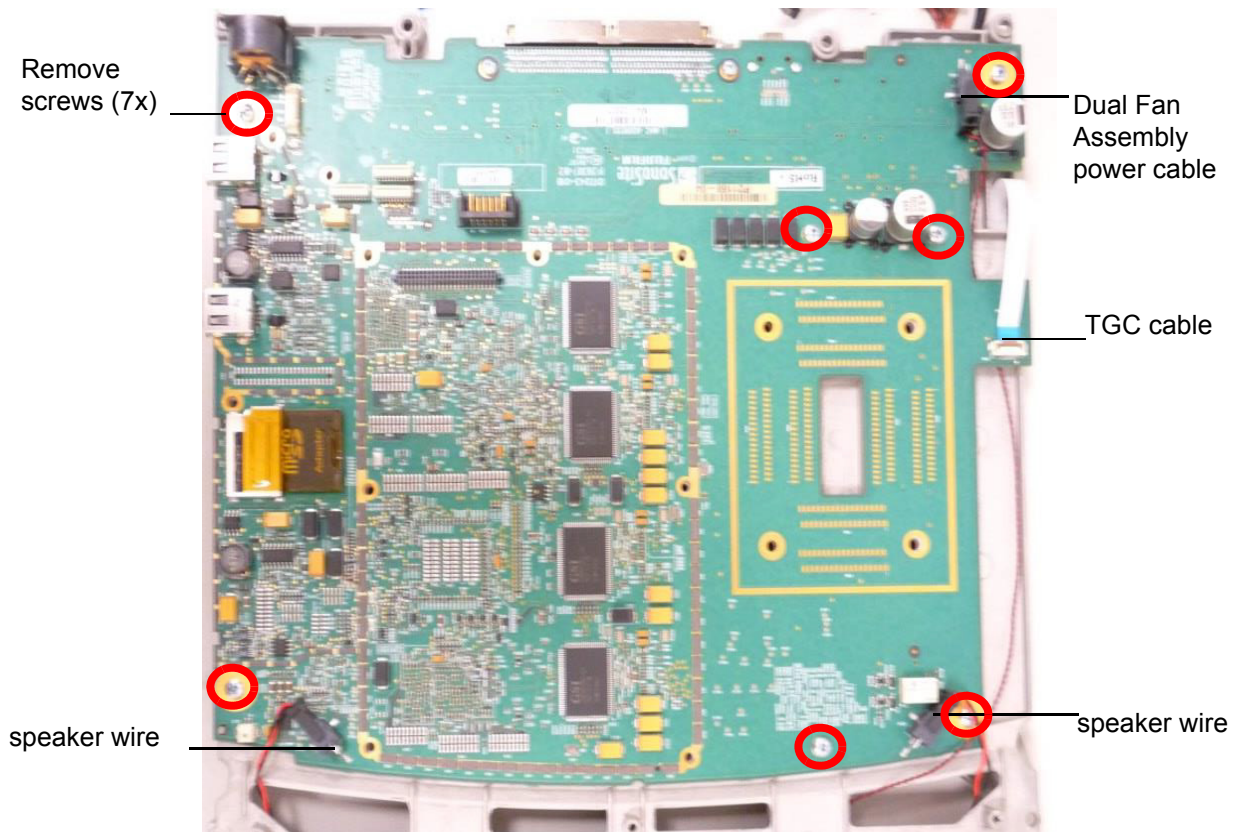

Figure 6.18 Main PCBA
- 5 Disconnect the power cable to the Dual Fan Assembly as shown in Figure 6.18.
- 8 Remove eight screws as shown in Figure 6.18.
- 1 Place Main PCBA on Mid-Frame and install seven screws as shown in Figure 6.18. Do not tighten the screws.